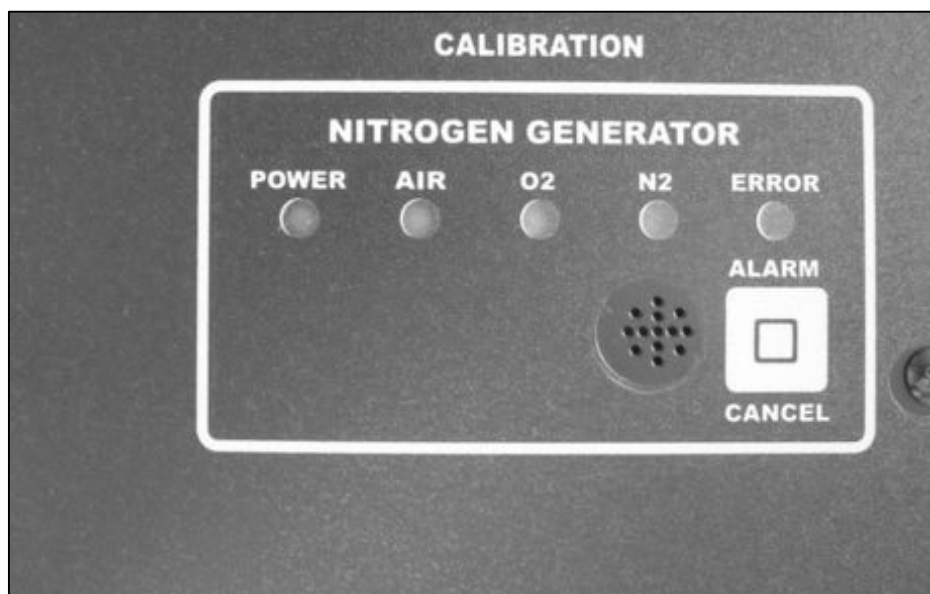

Figure 2
**11. Nitrogen Generator Diagnostic Lights:** These lights inform the operator of the status of the self-calibration process as well as Tester readiness. (Figure 2)